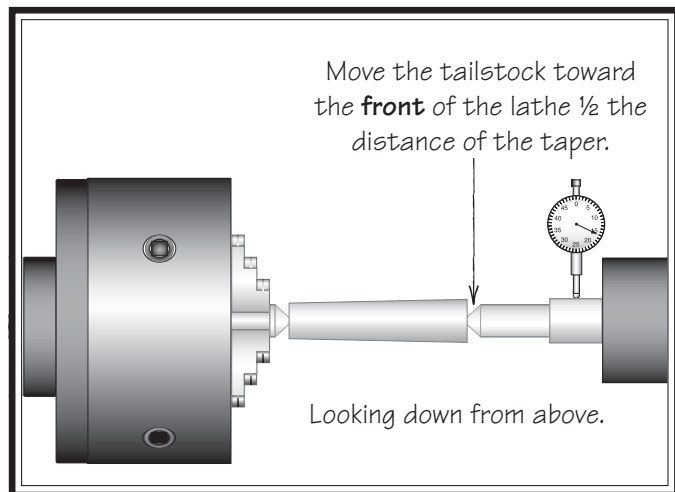

Figure 44. Adjust tailstock toward the operator.
- If the test stock is *thicker* at the tailstock end, move the tailstock toward the *front* of the lathe $\frac{1}{2}$ the distance of the amount of taper (see **Figure 44**).